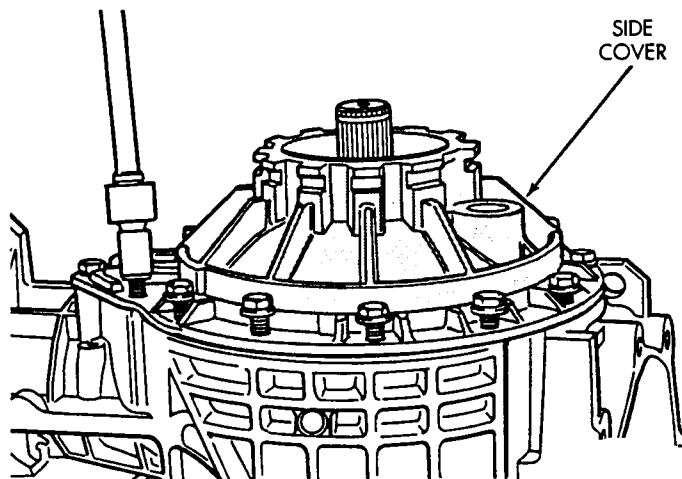

Fig. 18 Differential Cover Installation
(21) Install differential cover (Fig. 18). Do not apply silicone sealant at this time. All bolts should be installed and tightened.